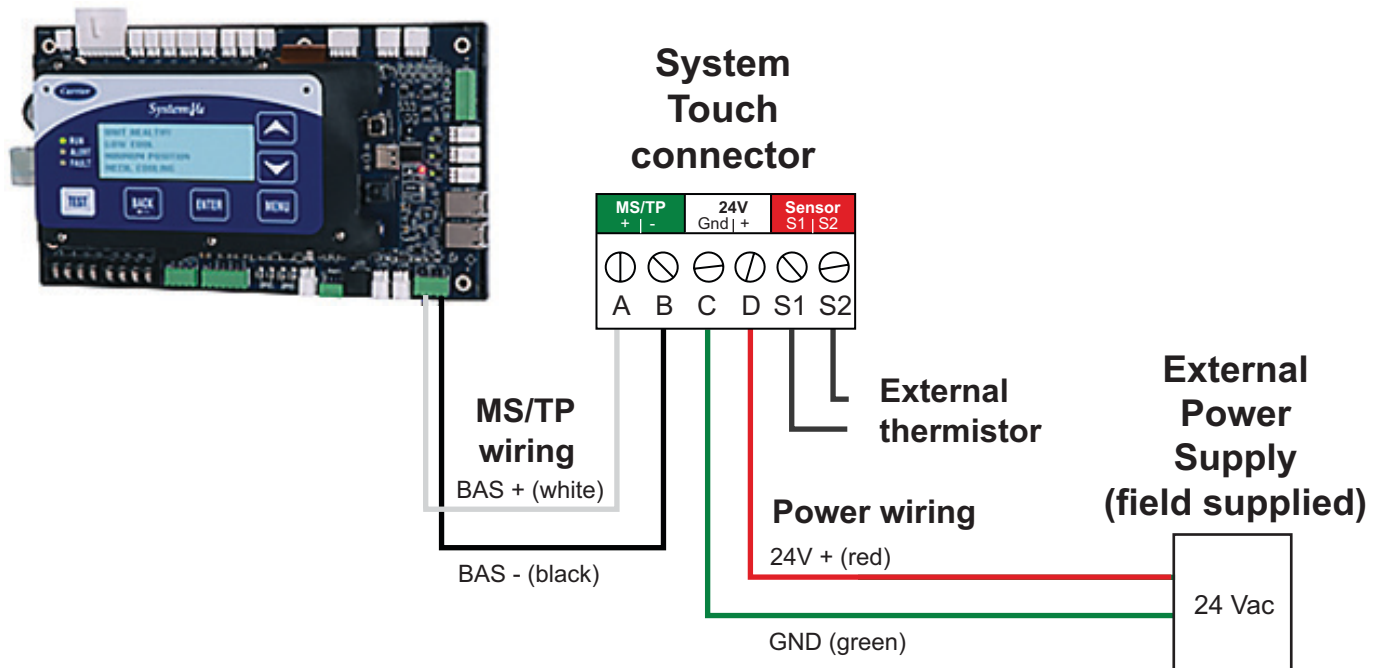

Fig. 9 — SystemVu to System Touch MS/TP Pin Connections
3. Connect System Touch to SystemVu over MS/TP as shown in Fig. 9.